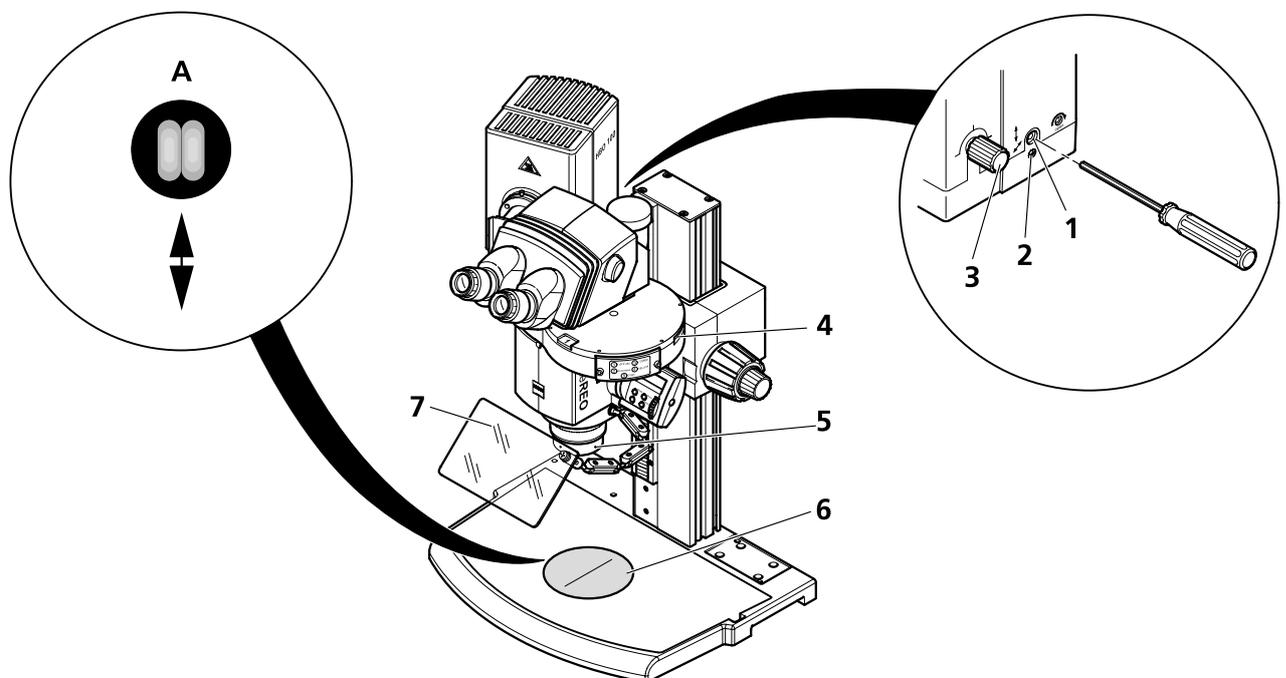

Fig. 35 Adjusting the HBO 100 illuminator
When working with UV light, always swing in the fluorescence protection screen (dazzle protector, Fig. 35/7) in front of the specimen to protect your eyes from scattered light.
4. Turn the filter wheel (Fig. 35/4) of the vertical illuminator to move a filter position into the light path.
Make sure to swing down the fluorescence screen (dazzle protector, Fig. 35/7) again after every change of the objective!
- Remove the specimen and put the adjustment circle, $d = 120$ mm (Fig. 35/6), onto the stage (see p. 95 for a description of the adjustment circle).
- Holding the objective (Fig. 35/5) safely **with both hands**, unscrew it from the microscope body or the objective nosepiece.
- Turn the collector knob (Fig. 35/3) on the HBO 100 until a focused image of the lamp arc/reflected image appears on the adjustment circle.
- Turn the screw for vertical adjustment (Fig. 35/1) until the lamp arc and its reflected image appear at the same level (Fig. 35/A).
- Turn the screw for horizontal adjustment (Fig. 35/2) in such a way that lamp arc and its reflected image appear, if possible, on both sides of the vertical line at the same level (Fig. 35/A).
- Holding the objective (Fig. 35/5) with both hands, turn it into the microscope body or the objective nosepiece.
- Turn the collector knob (Fig. 35/3) to adjust homogeneous illumination.
- Remove the adjustment circle (Fig. 35/6) and put the fluorescence specimen onto the stage.